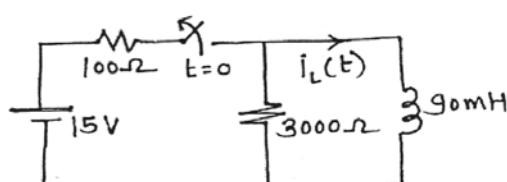

Fig. 2
c) For the network shown in Fig. 2, steady state is reached with switch closed. The switch is opened at $t = 0$. Obtain expressions for $i_L(t)$ for $t > 0$. [6]